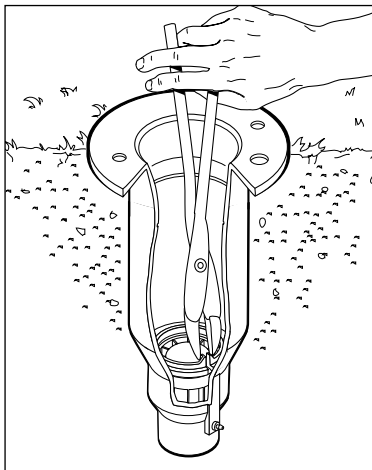

Figure 3
1. To remove valve assembly, squeeze ears of snap ring together with snap ring pliers (P/N 995-07) and remove snap ring from sprinkler body. (See **Figure 3**.)